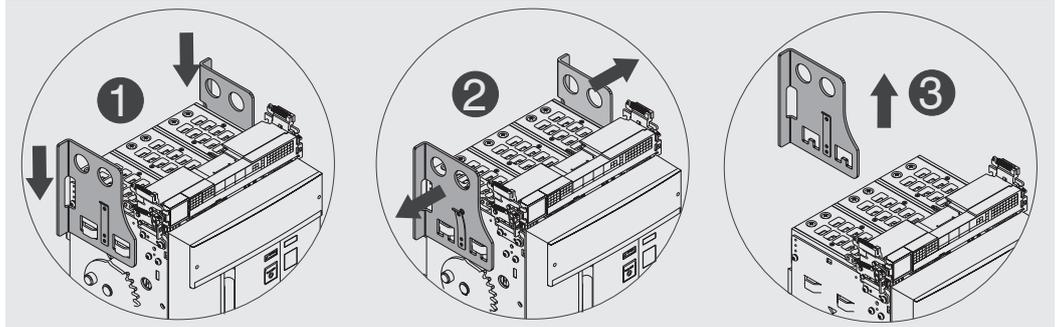

Figure 85
5. Unlatch the tongue and remove the lifting plates from the moving part. See Figure 85.